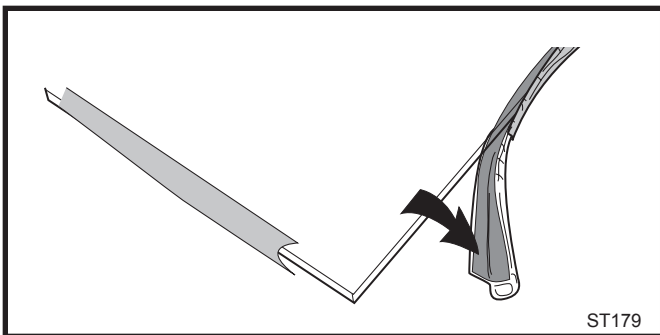

Fig. 77 Wrap the gasket material around the outside iedge of the glass.
3. Starting on a long edge, remove about 6" of the protective paper strip and apply the flat adhesive face of the gasket around the outside-facing edge of the panel. Continue around the panel, applying a bout 6" at a time and being careful to not stretch the material. Do not overlap the gasket ends. (Fig. 77)